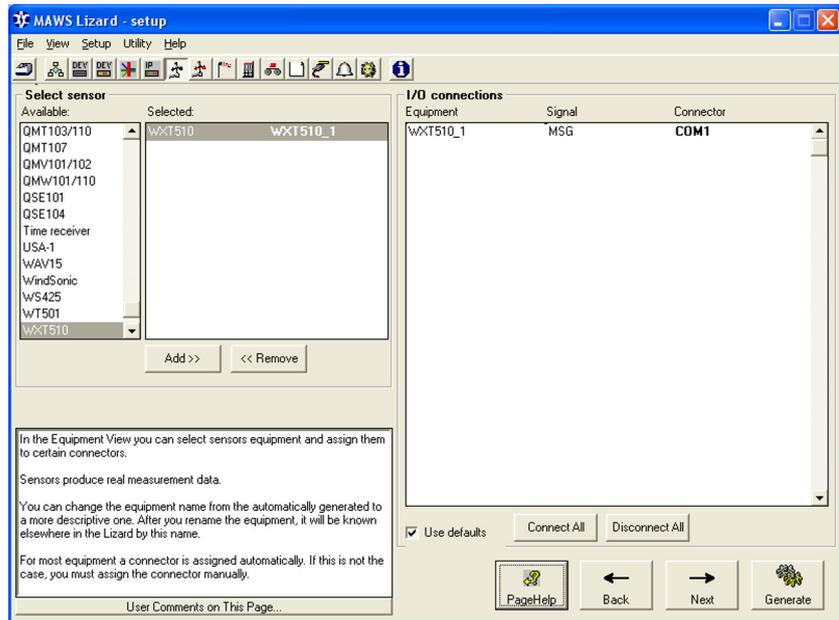

Figure 24 Equipment View: Selecting the I/O Connection for Weather Transmitter
4. Proceed to the **Equipment** view as shown in Figure 24 on page 63.